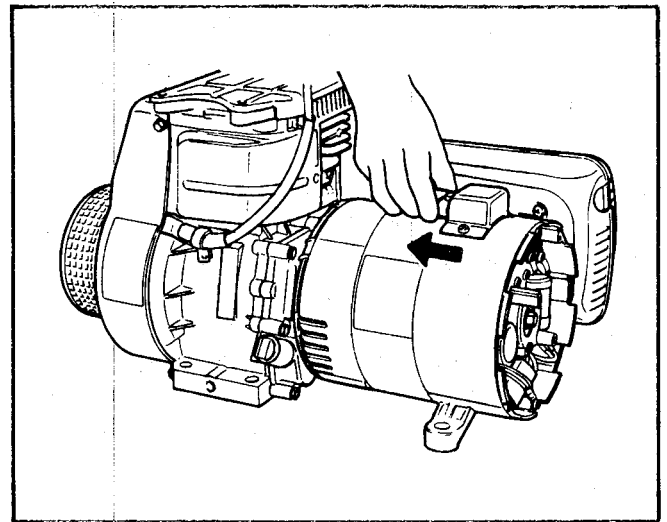

Figure 127
44. Reconnect the lead wire from the control panel to the connector on the top of the generator. See Figure 127.